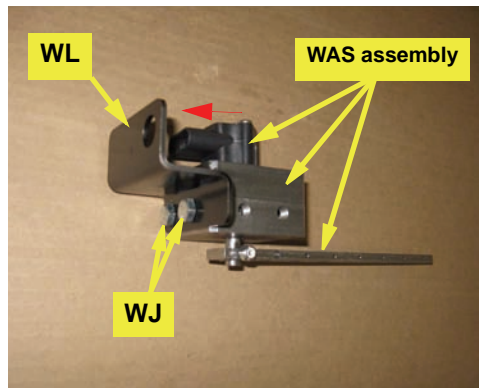

Figure 2b: WAS assembly on mounting bracket
- b. Using the provided hardware **WJ**, bolt the WAS assembly onto its bracket **WL** (Figure 2b). Make sure the wire connector is facing the bracket.